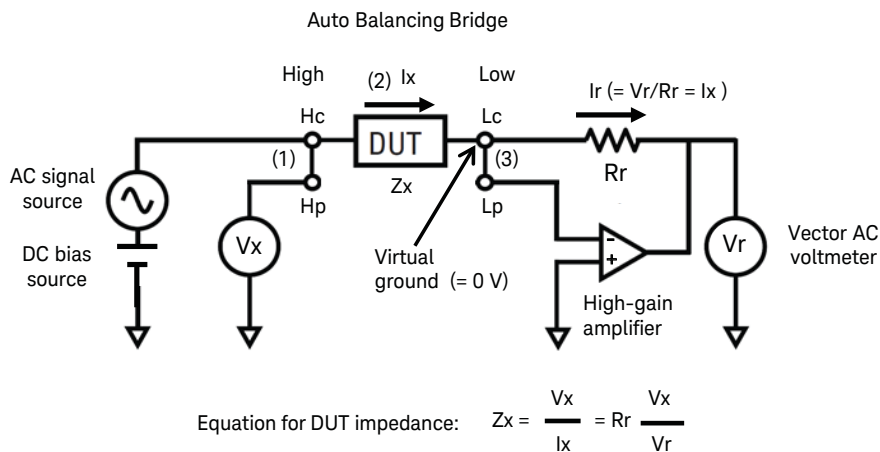
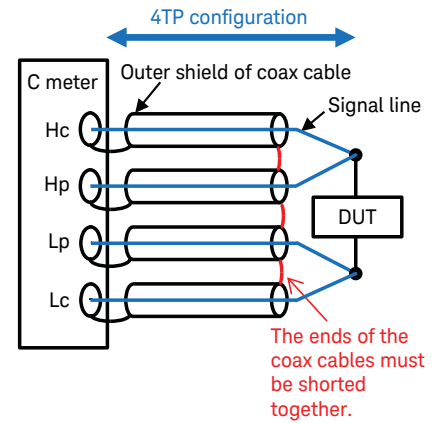

Figure 1. Simplified auto balancing bridge type CV meter block diagram.
Figure 2. Four terminal pair (4TP) configuration.
There are many ways for performing the CV measurement, but the most popular method in below 10 MHz frequency range is the auto balancing bridge type CV meter as shown in Figure 1.
It measures the impedance of the device under test (DUT) Z_x as $Z_x = V_x / I_x$, where V_x is the AC signal voltage applied to the DUT, and I_x is the AC current flowing through the DUT. The CV meter consists of (1) the AC signal source V_x with the DC bias source in the high terminal, (2) the current I_x flowing through the DUT, and (3) the low terminal vector current meter as shown in Figure 1.
The configuration shown in Figure 2 named as four terminal pair (4TP), which extends the four terminals shown in Figure 1 with the four coaxial cables, provides the best accuracy. Since the two sensing lines, Hp and Lp, are extended to the DUT terminal, the measurement accuracy is maintained, even if there exists an additional stray impedance in the DUT connection, if the standard 4TP cables and fixture are used and a proper error compensation is applied.